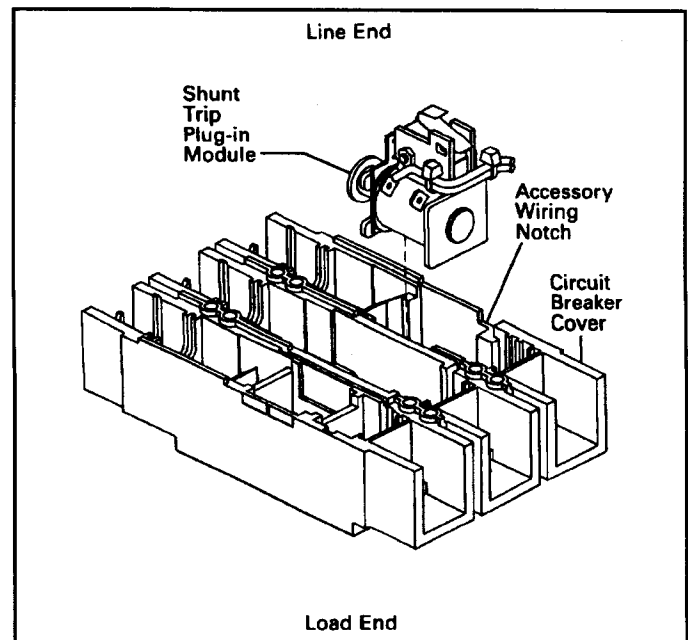

Fig. 2-3 Shunt Trip Installation
- 2-5. With cover in inverted position (Fig. 2-3), position shunt trip plug-in module as shown and slide into mounting cavity in device cover.